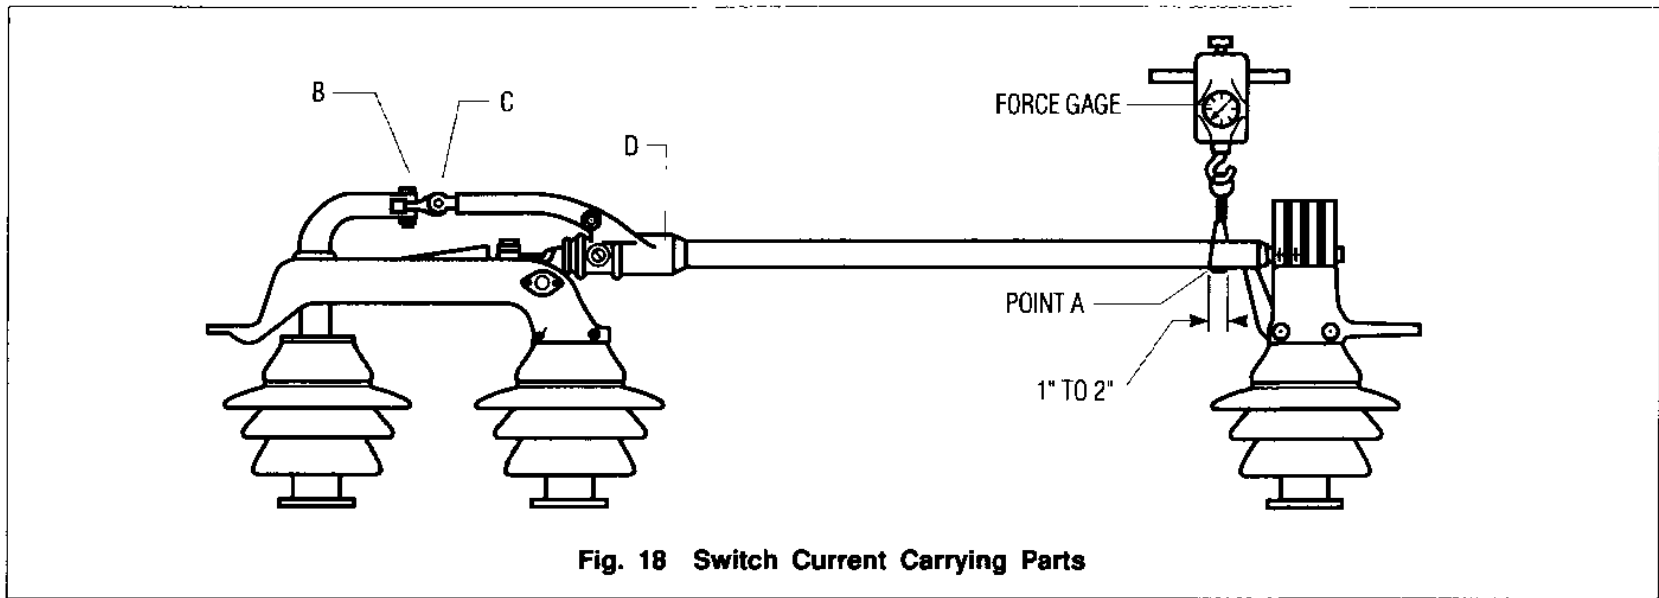

Fig. 18 Switch Current Carrying Parts
jaw stop by either pushing the blade up from below and noting the lbs. at which the blade is lifted off the jaw stop, or by putting a wire loop around the blade and lifting it with the gauge and noting the lbs. required. The place on the blade at which the force is measured should be just outside the finger contact assembly, see Fig. 18. If the force required is not proper, an adjustment must be made at the hinge end of the switch. To make the necessary adjustment, move the switch blade to a convenient point near the full open position and remove crank pin (B), Fig. 18, then move and twist blade or forked link (D) to disengage clevis (C) from crank.